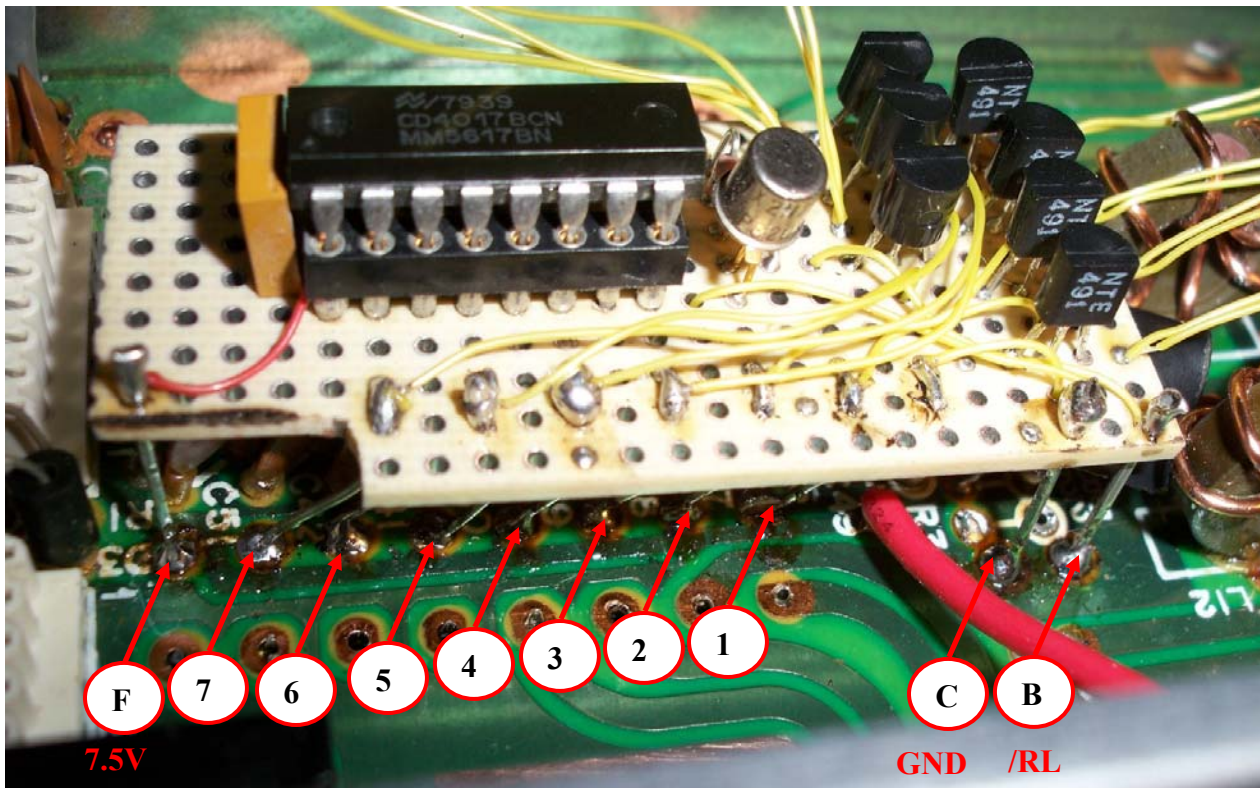

Figure 9. Board #1 (Control Board).
- 8) Construct and install Board #1. This board is constructed on perf-board with 100 mil spacing. An IC socket is highly recommended. Refer to Figure 9 for reference. The 3 stiff metal pins holding up the board at points B,C and F are from wire wrap pins. An insulator is placed between the bottom of the board and the top of the existing circuitry below it. The other wires connecting to the PCB are 22AWG solid wire. Include sufficient length wires from the drain of each transistor to reach each relay. The test points in Figures 9 and 10 correspond to the test points in the schematic.